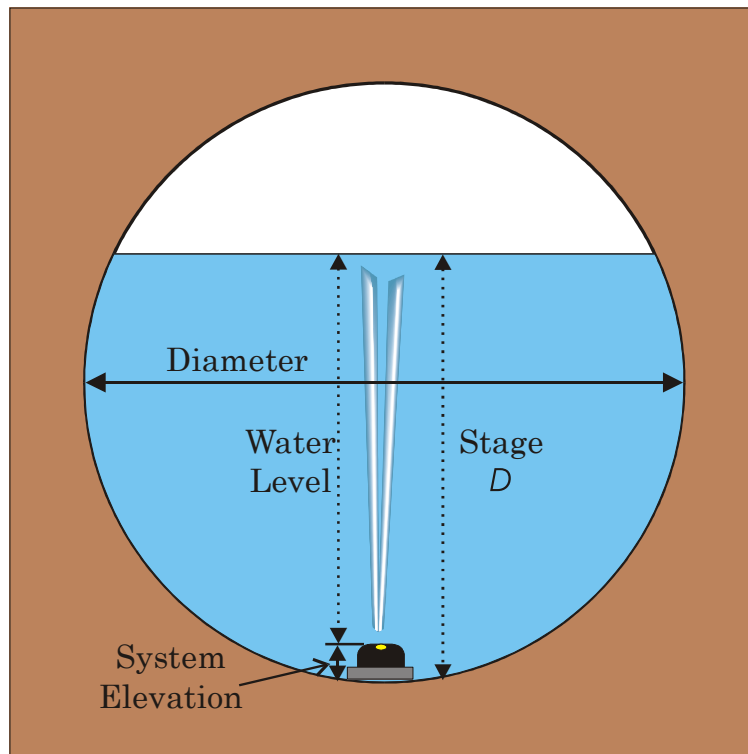

Figure C-5. Round-Pipe Geometry – Argonaut-SW
>ChannelType Round                          See Figure C-5.
- **Round**: The height of the top of the system (vertical beam transducer face) relative to the bottom of the pipe. Available for SW (**Figure C-5**) systems only.